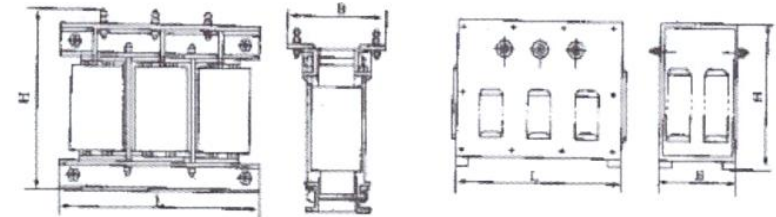

Fig. 7 SBK (SG) series three phase dry type transformer outline size
See fig. 7 and table 4 for outline size of SBK(SG) series three phase dry type transformer